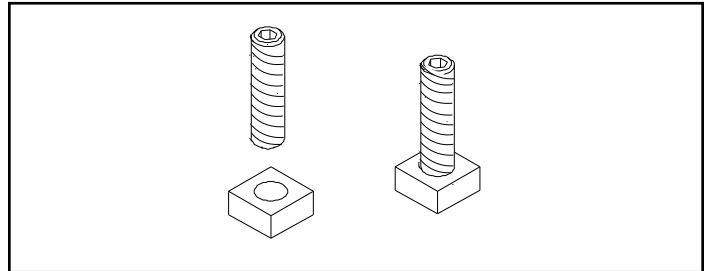

Figure 25.2
8. Thread Allen bolts through nuts until flush (**Figure 25.2**)